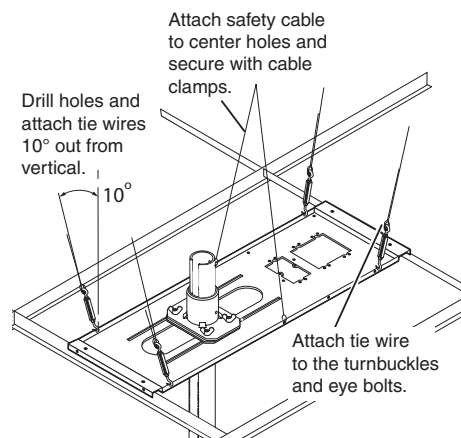

Figure 5. Attach Tie Wire and Safety Cable.
- e. Mark and drill four holes, approximately 1/4 inch (32 mm) deep into the ceiling joists, using a 1/4 inch (6.4 mm) diameter drill bit. Do this at 10 degrees out from vertical. Drill a fifth hole centered above the PCM for the safety cable (see figure 5). The minimum joist size used should be 2 inches by 4 inches.